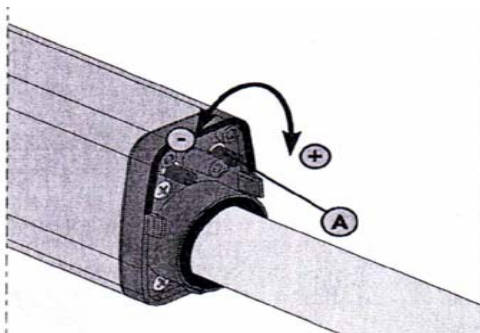

Figure 12.
2. To adjust the closing limit switch (FCC) turn the adjusting screw clockwise, figure 12, ref A, to increase the rod stroke, and counter-clockwise to reduce it.